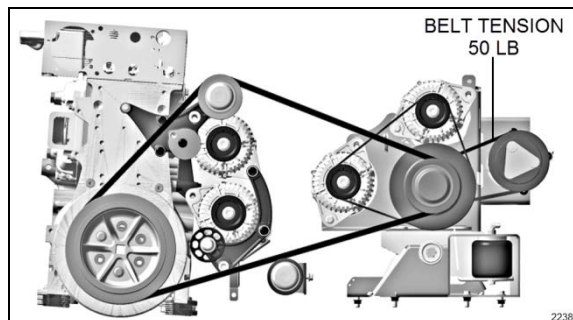

**FIGURE 27: BELT TENSIONER CONTROL VALVE - H SERIES**
2. For vehicles equipped with a 3rd alternator, belt tensioning is also applied through air bellows (Figure 25). Turn the belt tensioner two-way control valve counterclockwise to release bellows pressure (Figure 27).
For H Series vehicles equipped with a 3rd alternator, (Figure 25) belt tensioning is also applied through air bellows which is adjusted by an air pressure regulating valve pressure (Figure 27). The correct pressure of 45 psi is set at the factory. Periodically verify the pressure at the regulating valve using a pressure gauge and correct if required.
Belt tensioning is applied through air bellows which are adjusted by an air pressure regulating valve (Figure 27). The correct pressure of 45 psi is set at the factory. Periodically verify the pressure at the regulating valve using a pressure gauge and correct if necessary.